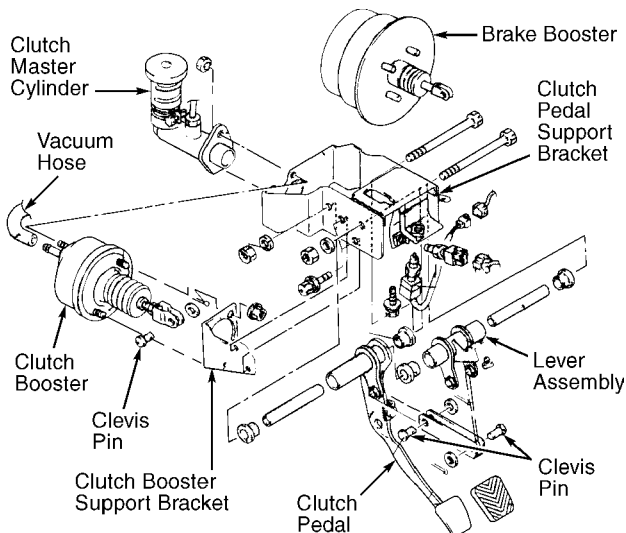

Fig. 6: Exploded View Of Clutch Pedal & Booster (3000GT AWD)
5) Disconnect clutch master cylinder from clutch pedal support bracket. See Fig. 6. Remove all clevis pins and yoke. Remove clutch pedal shaft and clutch pedal. Remove bushing, spacer and lever assembly. Remove clutch booster support bracket and clutch booster.